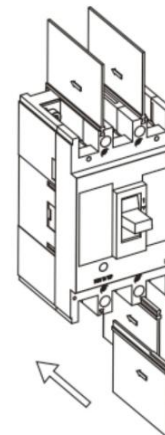

**Fig. 2**
9. Be sure to install the interphase barriers between the power supply terminal phases as shown in Fig. 2.